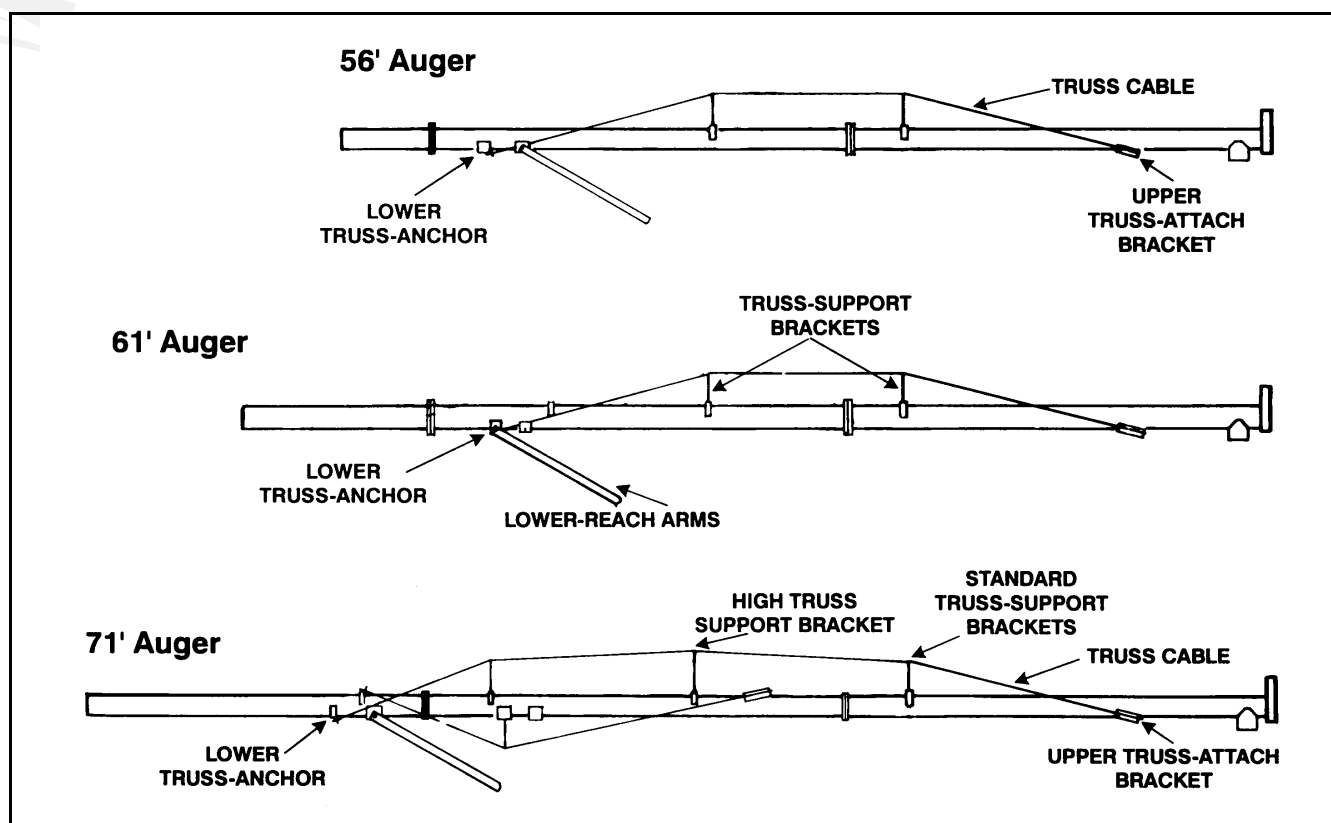

Figure 3.14
- On 6" x 61' augers, fasten lower truss anchor to 10' lower tube section (see Figure 3.14 for location).
- The 71' auger requires a high truss support center bracket located between the 2 standard support brackets. Fasten with two 7/16" x 1" bolts and locknuts (Figure 3.14).